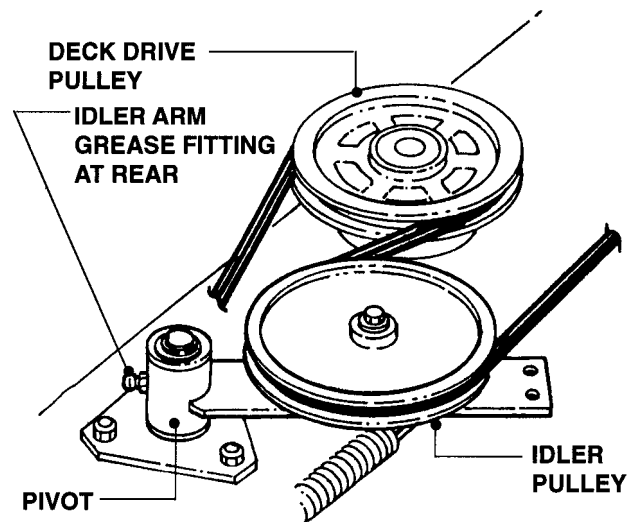

FIGURE 8.18
5. If it does not, lubricate Pivot area through Grease Fitting, located at rear of Idler Arm. See Figure 8.18.